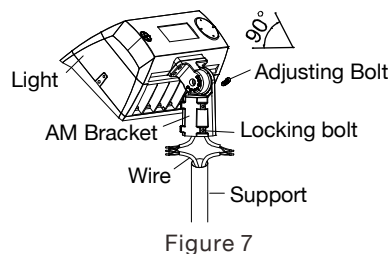

Figure 7
1. Adjustable fitter mounting (AM)
- STEP 1:** Connect the wire correctly and put the wire into pole. Then fasten the locking bolts between slip fitter and the pole. (FIGURE 7)